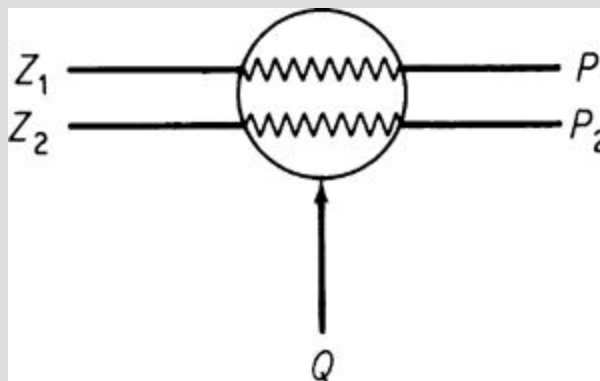

Figure E12.1c
c. Heat exchanger (Figure E12.1c): For this process we assume that $W = 0$ (but not Q).